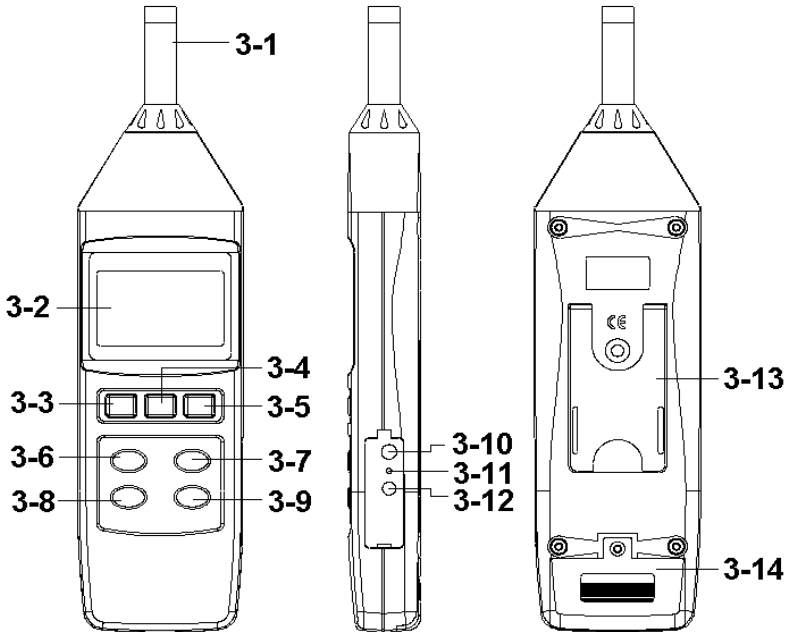

Fig. 1
- 1) Power on by pressing the " Power On/Off Button " ( 3-3, Fig. 1 ) , the meter's default function is " Auto range ", " A frequency weighting " & " Fast time weighting ". The lower LCD display will show the unit " A. Fast Auto " .
- 2) Select " A " or " C " frequency weighting by pressing the " A/C Button " ( 3-7, Fig. 1 ) .
- 3) Determine proper measuring range by pressing the " Range Button " ( 3-9, Fig. 1 ) .
4) According to various measuring sound source, select the Time Weighting ( Fast or Slow ) by pressing the " Time Weighting Button " ( 3-8, Fig. 1 ) .
If intend to maintain the maximum value, press the " Max. Hold Button " ( 3-6, Fig. 1 ) and a " P.H " symbol will show on the top LCD display. Press the " Max. Hold Button again to exit the function.
During the measurement, pushing the " Hold Button " ( 3-4, Fig. 1 ) will hold the measured value & the LCD will indicate " HOLD " symbol.
\* The data record function displays the maximum and minimum readings. To start the DATA RECORD function, press the " REC. Button " ( 3-5, Fig. 1 ) once. " REC " symbol will appear on the LCD display.
a) Push the " REC. Button " ( 3-5, Fig. 1 ) once, the " REC Max " symbol along with the maximum value will appear on the display.
*If intend to delete the maximum value, just press the " Hold Button " ( 3-4, Fig. 1 ) once a while, then the display will show the " REC " symbol only & execute the memory function continuously.*
b) Push the " REC. Button " ( 3-5, Fig. 1 ) again, the " REC Min " symbol along with the minimum value will appear on the display.
*If intend to delete the minimum value, just press the " Hold Button " ( 3-4, Fig. 1 ) once a while, then the display will show the " REC " symbol only & execute the memory function continuously.*
To de-activate this feature, Select the memory record function during measurement, by pressing the " REC. Button " ( 3-5, Fig. 1 ).
The instrument is provided an 3.5 mm dia. phone socket ( 3-10, Fig. 1 ) for AC output, it is used to connect with analyzer, level recorder, tape recorder, controller...etc.
The instrument is provided an 3.5 mm dia. phone socket ( 3-12, Fig. 1 ) for RS232 computer interface socket.
- 2) Open the " Battery Cover " ( 3-13, Fig. 1 ) away from the instrument and remove the battery.
- 1) Prepare the optional " SOUND CALIBRATOR ", such as " SC-941 " or " SC-942 ". Power on the Sound Calibrator & plug calibrator output socket into the " Microphone " head ( 3-1, Fig. 1 ) of the Sound Level meter.